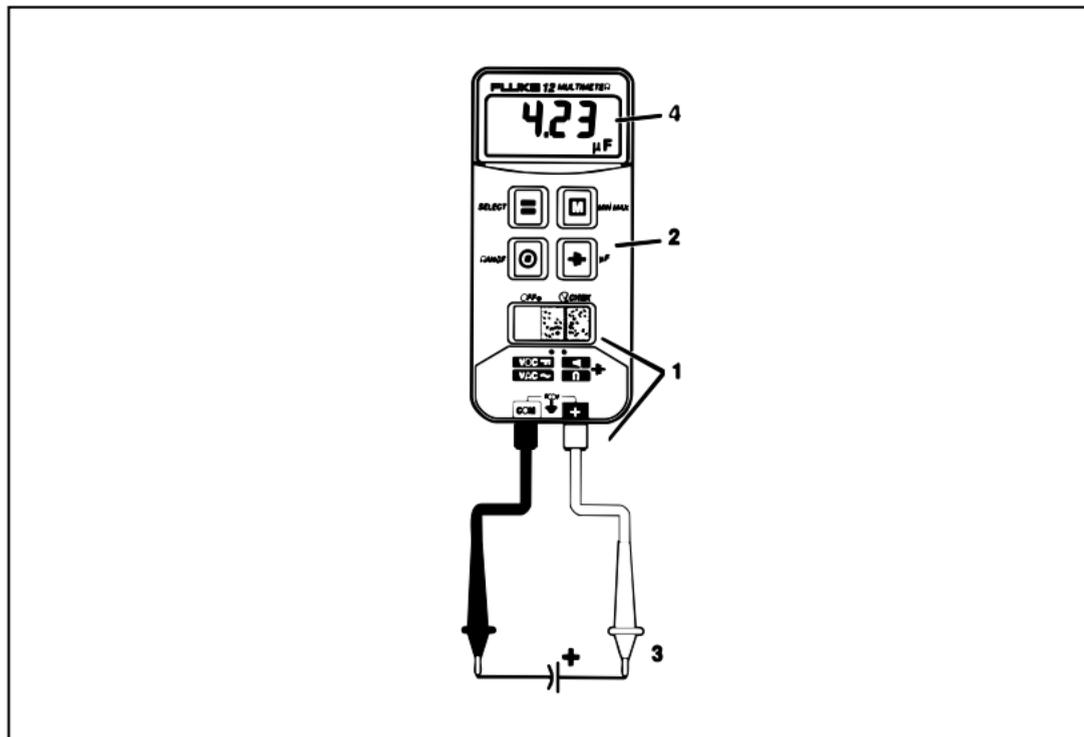

Figure 6. Measuring Capacitance
1. Insert test leads, and move the slide-switch to [**⚡**]. (See Figure 6.)